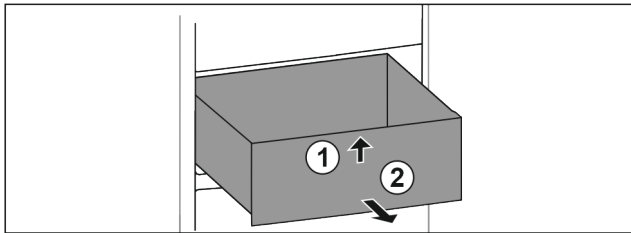

Fig. 84
- Lift up drawer at the front. Fig. 84 (1)
- Remove drawer to the front. Fig. 84 (2)